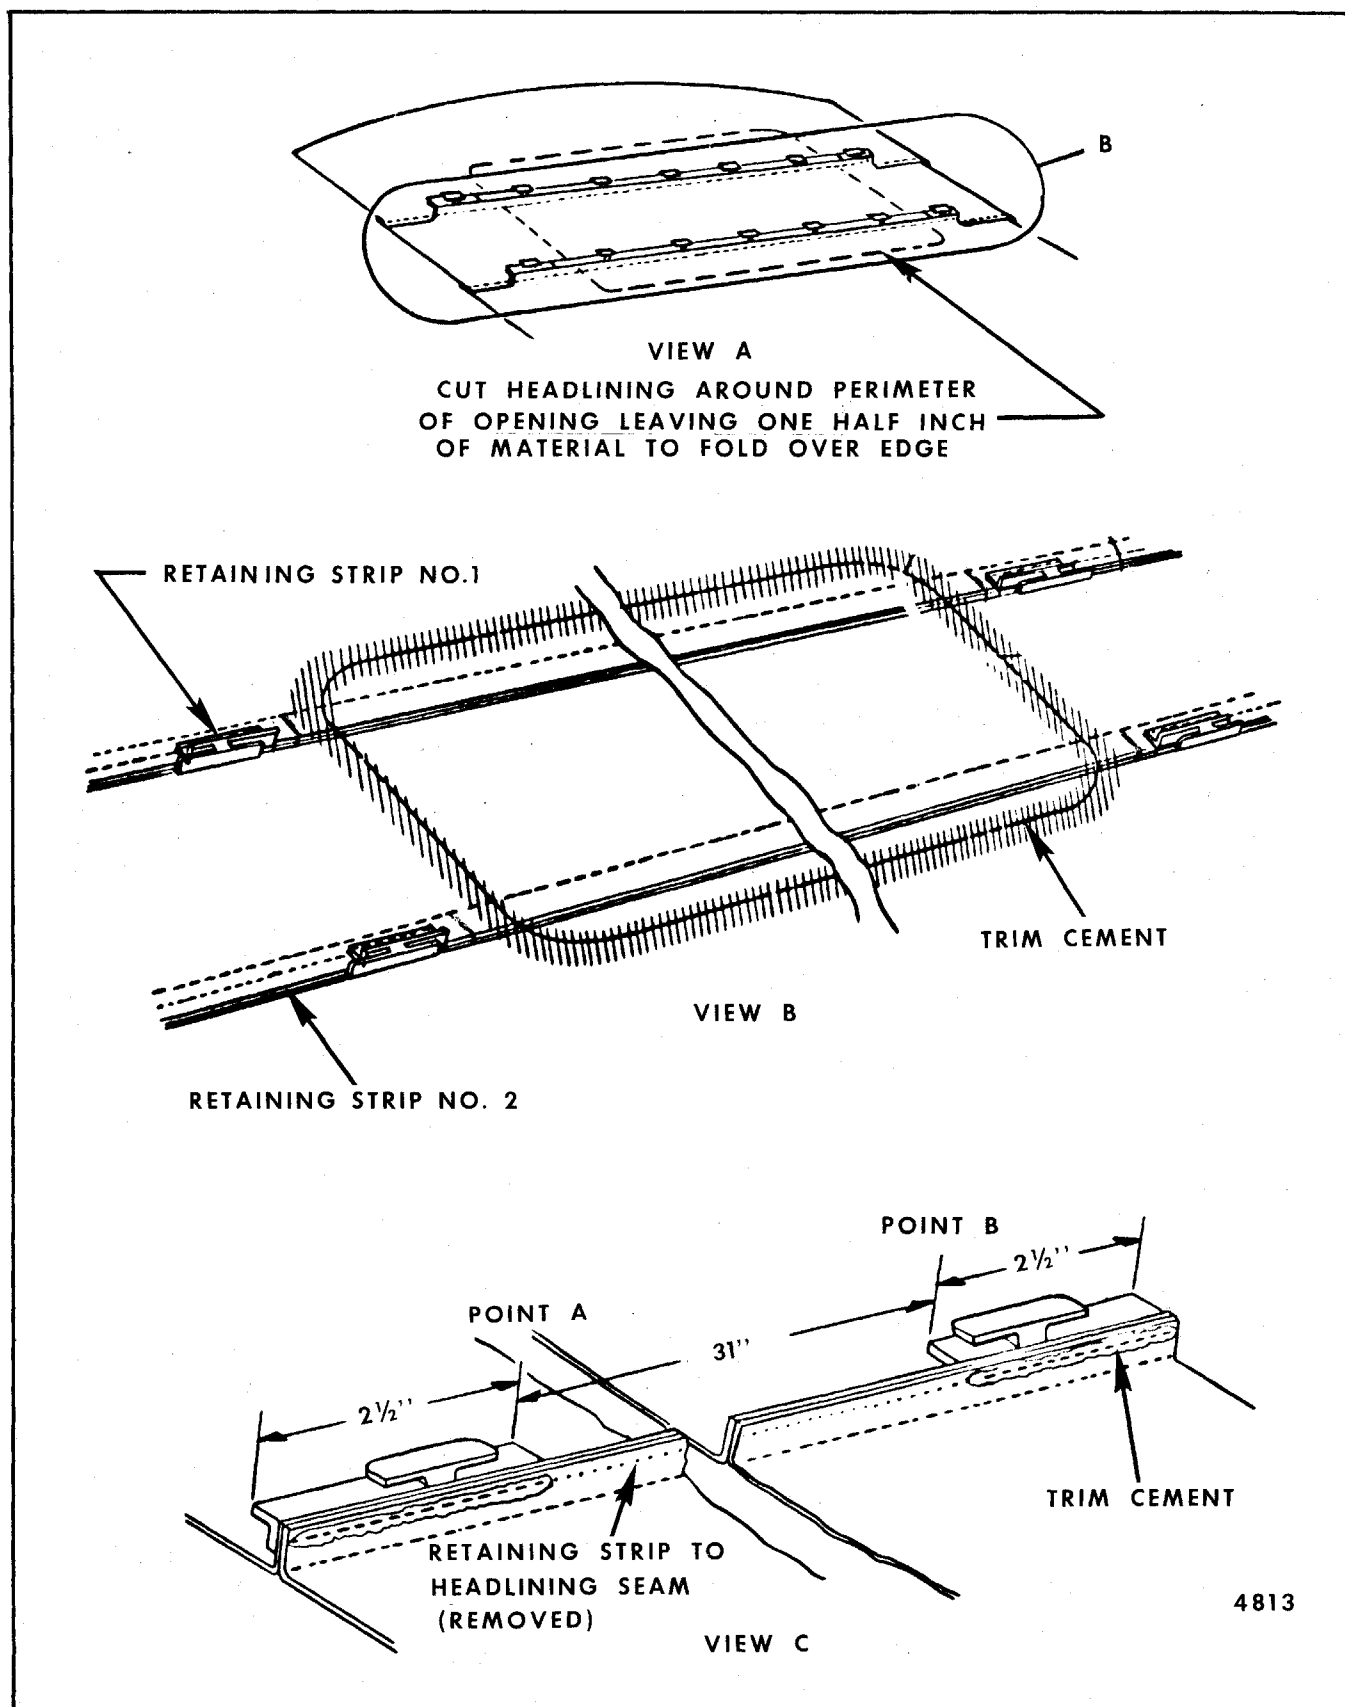

Fig. 8-3-Headlining Installation - Styles with Vista Vent
- a. Cut no. 1 and no. 2 retaining strips at point A and B, see Figure 8-3, View "C". On "A-35" styles, cut no. 1 retaining strip only, at same locations.
- b. Carefully cut thread (top seam only) that attaches retaining strip to headlining between points A and B on no. 1 and no. 2 retaining strips and remove (see Fig. 8-3, View "C").
- c. Cement seam to prevent stitching from coming loose at remaining retainer lugs (see Fig. 8-3, View "C").
7. On styles with vista vent option, cut out area of headlining at roof opening leaving sufficient material to fold over entire edge. Apply cement and secure around opening (see Fig. 8-3, View "B").